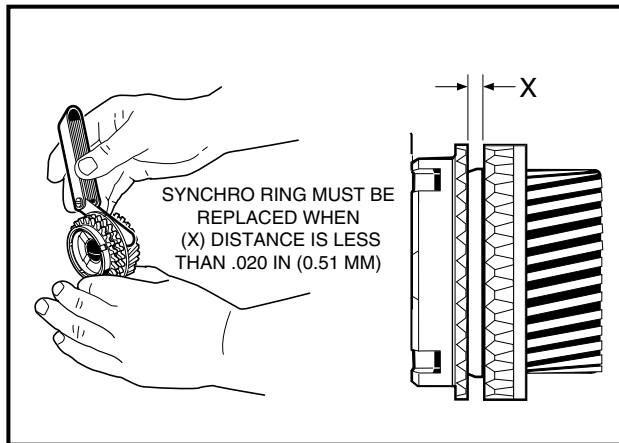

FIGURE 10-55
5. Using a feeler gauge, measure the distance X at several points around the assembly. The synchro ring should be replaced when X is .020 inch (0.51 millimeter) or less (**Figure 10-55, Page 57**).